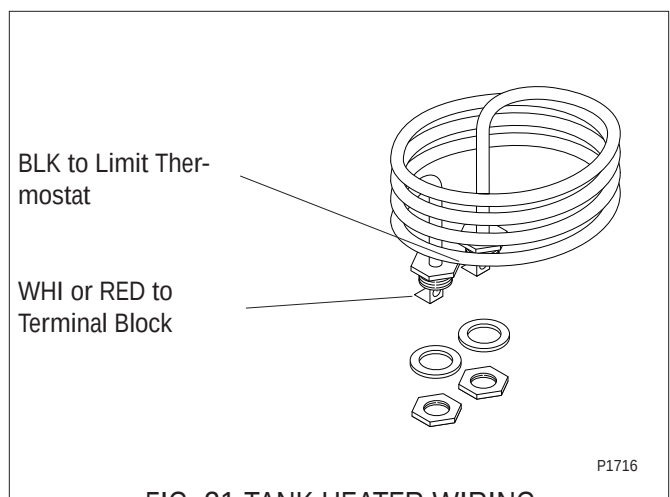

FIG. 21 TANK HEATER WIRING
15. Refer to FIG. 21 when reconnecting the wires.